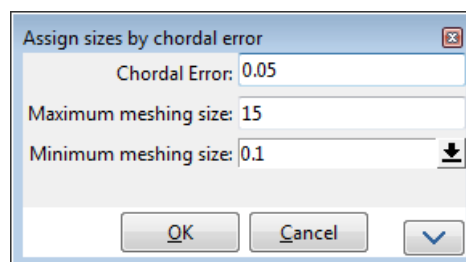

Figure 46. Chordal error window
- 2 . Provide the values shown in figure 46.